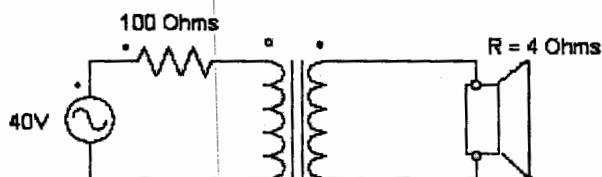

Fig. 8
- (a) For the circuit of Fig. 8, find the transformation ratio required to deliver maximum power to the speaker. Find the maximum power delivered to the speaker.